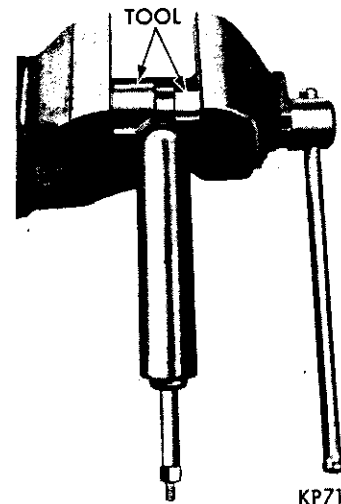

Fig. 3—Removing or Installing Shock Absorber Bushing
(5) If lower bushing requires replacement, remove it from shock absorber using Tool C-3553 by pressing on the outer sleeve of bushing (Fig. 3).
(1) To install upper rubber bushing, remove inner steel sleeve and immerse bushing in water (DO NOT use oil or soap) and with a twisting motion, start bushing into hole of upper mounting bracket, then tap into position with a hammer. Reinstall steel inner sleeve in bushing.
(2) Install lower mounting bushing in eye of shock absorber using Tool C-3553 (Fig. 3).
(3) Test and expel air from shock absorber, then, compress to its shortest length. Position washer on upper rod of shock absorber and insert rod through upper bushing and install upper compression washer and nut and tighten to 25 foot-pounds.
(4) Position and align lower eye of shock absorber with that of lower control arm mounting holes. Install bolt (from rear side only on Dart) and nut and tighten to 50 foot-pounds with the full weight of vehicle on the wheels.